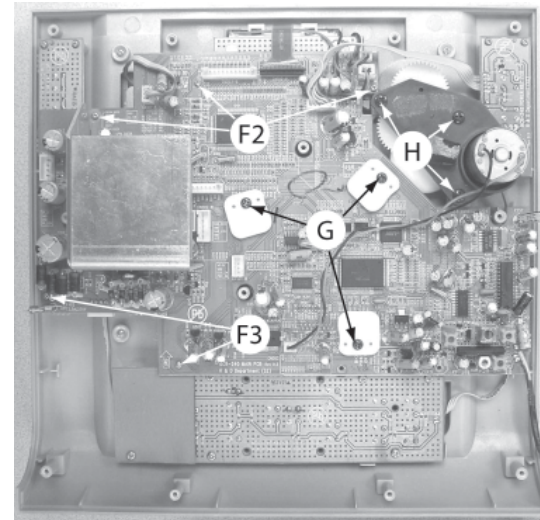

Figure 3
- 6) Loosen 4 screws K (see Figure 3) to remove the Power Key Board.
- 7) Loosen 8 screws L (see Figure 3) to remove the Volume Board.
- 8) Loosen 8 screws M (see Figure 3) to remove the Door Eject Lever Bracket Right/Left, then remove CD door.